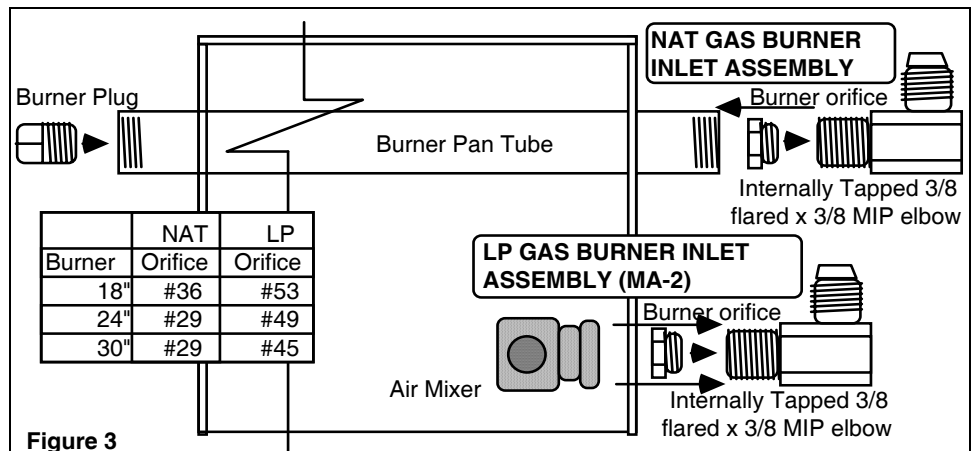

Figure 3
STEP ONE: Burner Pan Fittings (Figure 3).
- **Natural Gas Burners** (F, FX, CS) Insert the appropriate **Burner Orifice** (see chart at Figure 3) into the **Internally Tapped 3/8 Flared x 3/8 MIP Elbow** and wrench tighten. (Orifice and Fitting are provided with Burner Pan).
- **Propane Gas Burners** (FA, FA-X, CA) requires **MA-2 Air Mixer Assembly** (see Figure 3). Insert the appropriate **Burner Orifice** (see chart at Figure 3) into the **Internally Tapped 3/8 Flared x 3/8 MIP Elbow** and wrench tighten. Thread the **Air Mixer** onto the **3/8 Flared x 3/8 MIP Elbow** and wrench tighten with air intake holes positioned horizontally (parallel to the floor).